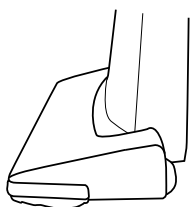

Fig. 2
2. Upright position – when cleaning tools are being used or for storage (Fig. 2). Handle locks in this position.